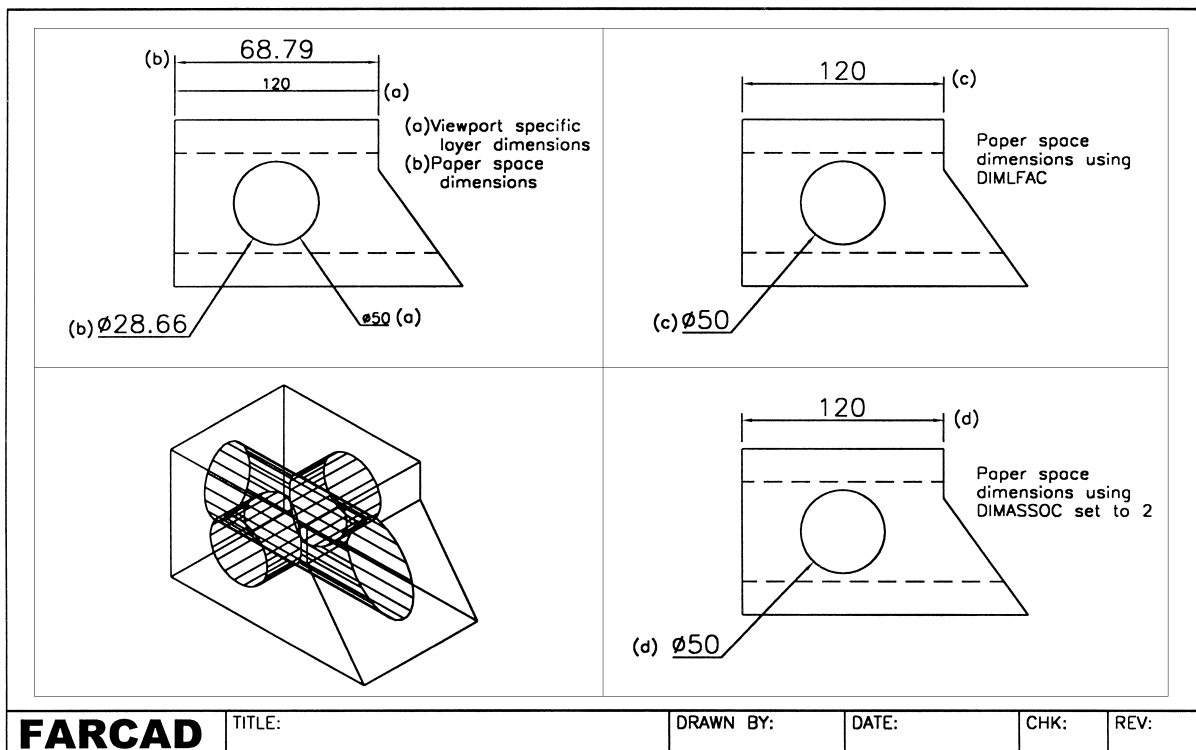

Figure 40.1 Adding dimensions in model and paper space.
- 5 Refer to Fig. 40.1, restore UCS FRONT and make layer DIM current
- 4 Dimension the top horizontal line and the circle as before and these two dimensions will only be displayed in the top left viewport due to the viewport specific layer DIMTL. These two dimensions are designated by (a) in Fig. 40.1
- 3 These two dimensions are designated by (b) in Fig. 40.1 and are obviously not correct